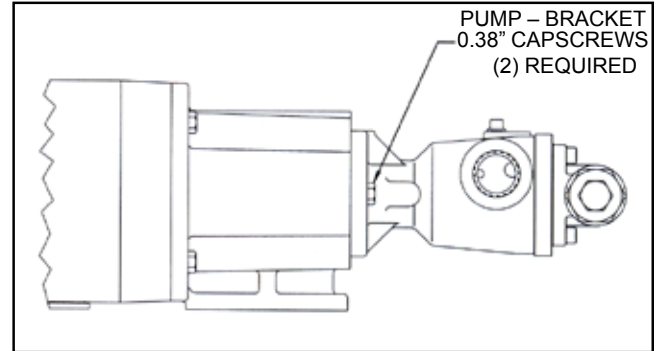

FIGURE 11
- Remove piping to ports and remove the capscrews-securing pump to bracket. See Figure 11. Support the pump with an overhead hoist if possible.